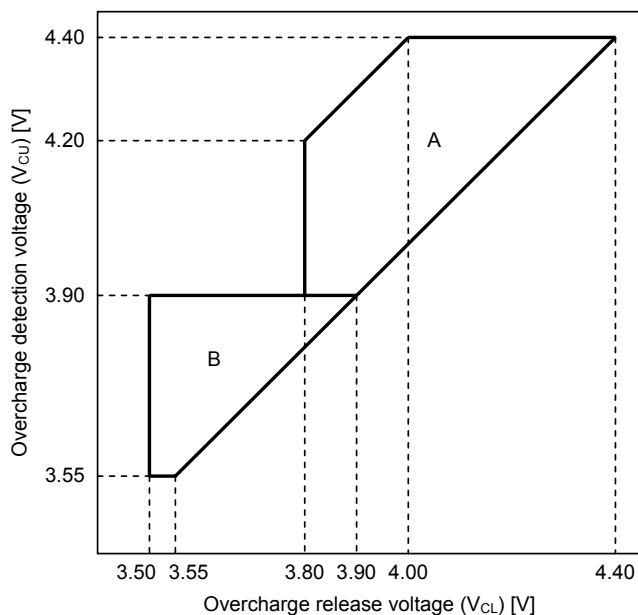
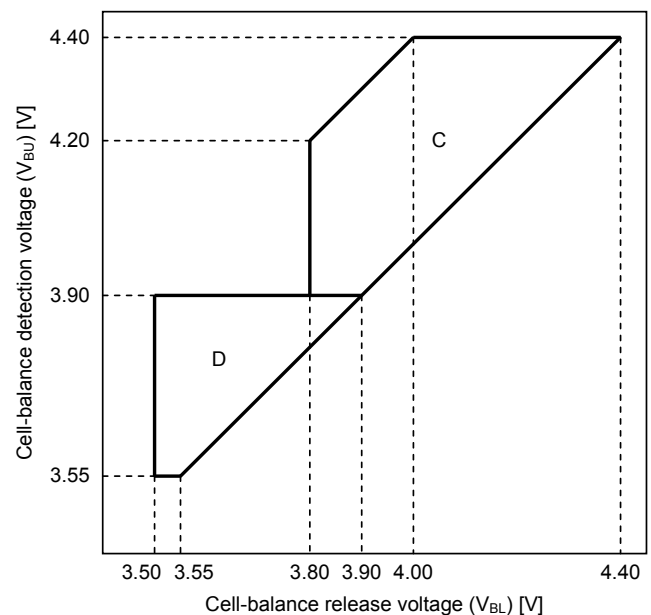

Figure 2
Figure 3
- Users are able to select the overcharge detection voltage, overcharge release voltage, cell-balance detection voltage and cell-balance release voltage from the range shown in **Figure 2** and **Figure 3**.
- Users are able to select how to combine the overcharge detection voltage (V_{CU}) and the overcharge release voltage (V_{CL}) from the range A or B shown in **Figure 2**^{*1}.
- Similarly, select how to combine the cell-balance detection voltage (V_{BU}) and the cell-balance release voltage (V_{BL}) from the range of C or D in **Figure 3**^{*2}.